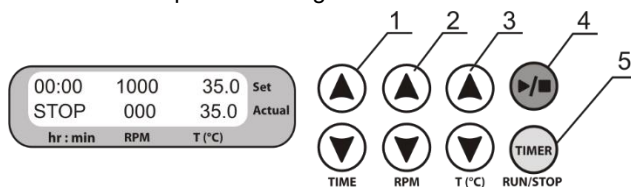

Figure 3. Control Panel
5.5.1. **Setting time (TIME).** Using the ▲ and ▼ **TIME** keys (fig. 3/1) set the required working time interval in hours and minutes (increment 1 min).
5.5.2. **Setting speed (RPM).** Using the ▲ and ▼ **RPM** keys (fig. 3/2) set the required speed (increment 10 rpm).
5.5.3. **Setting temperature (T, °C).** Using the ▲ and ▼ T, °C keys (Fig. 3/3) set the necessary temperature (increment 0.1°C).
5.6.2. Press the ►/■ **RUN/STOP** key (fig. 3/4). The platform will start rotating and the timer indicator will start counting up the time interval (with 1 min precision).
5.8. If required, there is possibility to restart the timer when it is running. Press the **TIME RUN/STOP** key once (fig. 3/5) to stop the timer. Press the **TIME RUN/STOP** key again to restart the timer.
**Caution!** At the end of the set time period the platform movement is stopped automatically, but the heating can be stopped only manually by reducing the temperature using the ▼ T, °C key (Fig. 3/3 - lower key) till the OFF sign appears in the upper line (Set) of the display